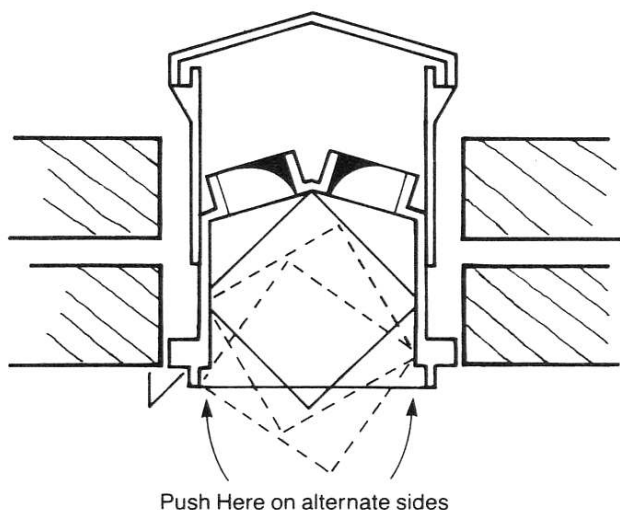

Fig. 8
16. Fit the heat exchanger into the casing of the unit. Pressing lightly on alternative side legs, “walk” the heat exchanger firmly into place (see Fig. 8).